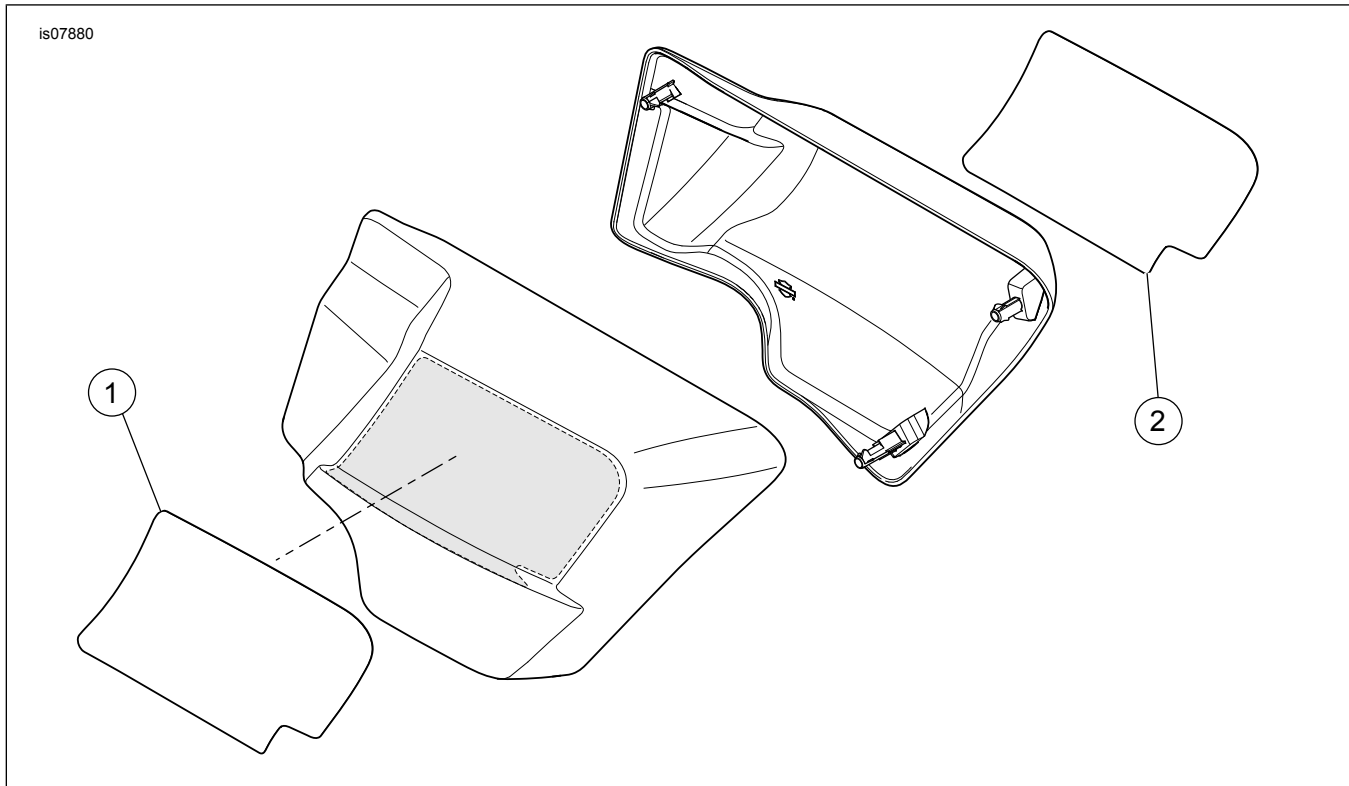

Figure 1. Service Parts: Paint Guard Kit
See Figure 1 and Table 1.
2. See Figure 1. Wash all mounting areas thoroughly. Allow to dry completely.
- See Figure 1. Identify each paint guard piece and its mounting location before proceeding.
2. See Figure 1. Align the paint guard with the top edge (1) of the side cover.